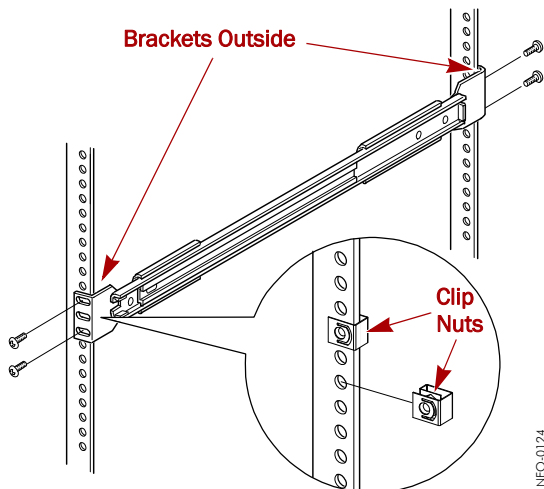

Figure 5. Installing Slide Member Fasteners
- Using four screws, loosely attach each pre-assembled rail set (see Figure 5):